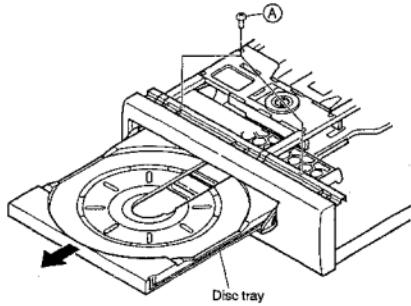
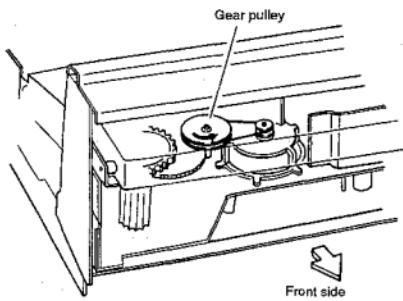

Fig. 1
Fig. 2
- ① Remove two screws Ⓐ for tray stopper. (Fig. 1)
- ② Remove the front panel. (by loosening three screws at the top side and a fixing screw of the earth lead.)
- ③ Turn the gear pulley (Fig.2) counterclockwise by hand.
- ④ After the disc tray is lifted up and moved toward you, pull out the disc tray toward you by hand.
- ③ Insert so that the first tooth of the straight gear on the rear of the disc tray meshes with the chipped gear teeth of the roller plate assembly.
④ Tighten two screws Ⓐ for disc tray stopper. (Fig.1)